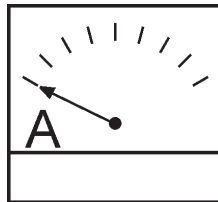

Figure 35. Ammeter (No Load)
6. The ammeter (Figure 35) will indicate **zero amps** with no load applied. When a load is applied, the ammeter will indicate the amount of current that the load is drawing from the generator.